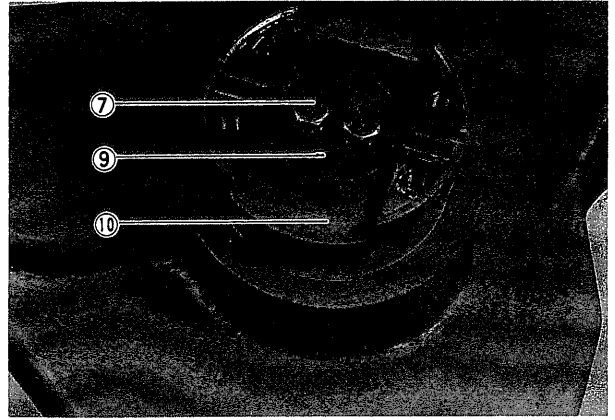

Fig. 31
- (3) Remove bolts (7) and take off cover (9) and pull off coupling (10). (Fig. 31)